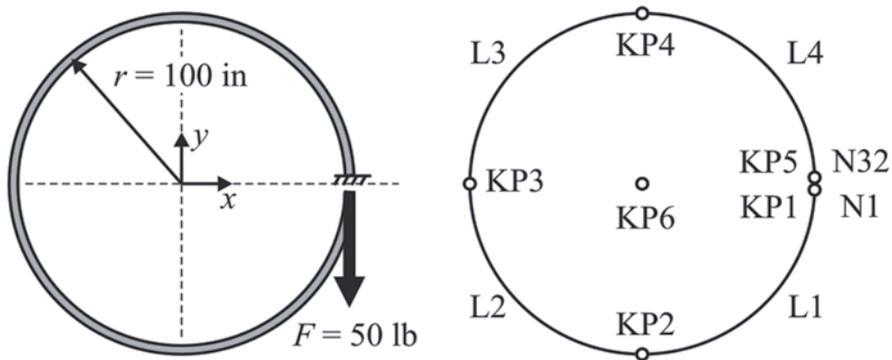

Fig. 8.4 Schematic of a circular steel ring and the corresponding solid model (*left*) and *Beam Tool* dialog box (*right*)
A circular steel ring with a slit, as shown in Fig. 8.4, is subjected to a 50-lb vertical force acting in the negative y -direction at the termination point while translations and rotations are constrained in every direction. The ring has a solid circular cross section with radius 1 in. The structure is modeled using beam elements with cross-sectional area $A = \pi$, elastic modulus $E = 30 \times 10^6$, Poisson's ratio $\nu = 0.3$, and moment of inertia $I_{zz} = \pi/4$. The goal is to find the displacements at the nodes and the moment diagram. The solid model used in the ANSYS solution is also shown in Fig. 8.4 (left), with the keypoint and line numbers indicated.
- Exit from the *Beam Tool* dialog box (Fig. 8.4 (right)) by clicking on **OK**.
- Referring to Fig. 8.4, repeat the same procedure for keypoints 2, 3, 4, 5, and 6 using **(0, -100)**, **(-100, 0)**, **(0, 100)**, **(100, 0)**, and **(0, 0)**, respectively, for the (x, y) coordinates.